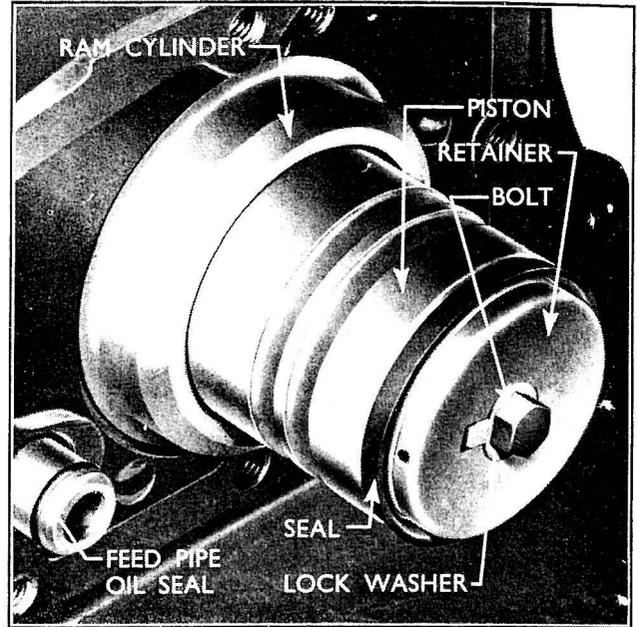

Fig. 196
- 2 Pull out the oil feed pipe (8½ ins. long) and remove the oil seals at each end (see Fig. 196).
- 1 Reassemble the piston by installing the new seal with the lip towards the crown of the piston, then fit the retainer with the flange located in the seal. Secure by means of the bolt and lockwasher, making certain that the tongue of the lockwasher fits in the slot in the piston head and bend the tab to lock the bolt (see Fig. 196).